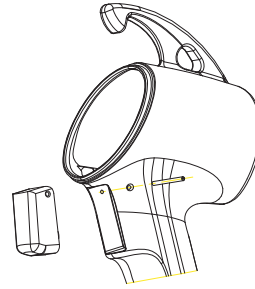

Figure 1
- Using a dia. 1.5 mm drift punch, remove the pin fixing the trigger to the handle assembly (see figure 1).